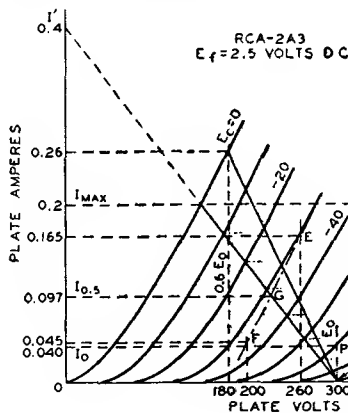
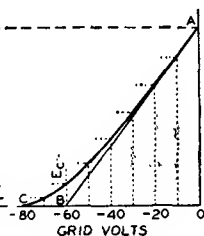

Fig. 24
Fig. 25
In class AB1 push-pull amplifier service using triodes, the operating conditions may be determined graphically by means of the plate family if  $E_o$ , the desired operating plate voltage, is given. In this service, the dynamic load line does not pass through the operating point P as in the case of the single-tube amplifier, but through the point D in Fig. 24. Its position is not affected by the operating grid bias provided the
In general, for any load line through point D, Fig. 24, the plate-to-plate load
**Example:** Fig. 24 illustrates the application of this method to a pair of 2A3's operated at  $E_o=300$  volts. Each tube has a plate-dissipation rating of 15 watts. The method is to erect a vertical line at  $0.6E_o$ , or at 180 volts, which intersects the  $E_c=0$  curve at the point  $I_{max}=0.26$  ampere. Using the simplified formulas, we obtain
The operating bias and the zero-signal plate current may now be found by use of a curve which is derived from the plate family and the load line. Fig. 25 is a curve of instantaneous values of plate current and dc grid-bias voltages taken from Fig. 24. Values of grid bias are read from each of the grid-bias curves of Fig. 24 along the load line and are transferred to Fig. 25 to produce the curved line from A to C. A tangent to this curve, starting at A, is drawn to intersect the grid-voltage abscissa. The point of intersection, B, is the operating grid bias for fixed-bias operation. In the example, the bias is -60 volts. Refer back to the plate family at the operating conditions of plate volts=300 and grid bias= -60 volts; the zero-signal plate current per tube is seen to be 0.04 ampere.
As in the case of the push-pull class A amplifier, the second-harmonic distortion in a class AB1 amplifier using triodes is very small and is largely canceled by virtue of the push-pull connection. Third-harmonic distortion, however, which may be larger than permissible, can be found by means of composite characteristic curves. A complete family of curves can be plotted, but for the present purpose only the one corresponding to a grid bias of one-half the peak grid-voltage swing is needed. In the example, the peak grid voltage per tube is 60 volts, and the half value is 30 volts. The composite curve, since it is nearly a straight line, can be constructed with only two points (see Fig. 24). These two points are obtained from deviations above and below the operating grid and plate voltages.
long-short dash line in Fig. 24. At the intersection of the composite curve and the load line, G, the instantaneous composite plate current at the point of one-half the peak signal swing is determined. This current value, designated  $I_{0.5}$  and the peak plate current,  $I_{max}$ , are used in the following formula to find peak value of the third-harmonic component of the plate current.